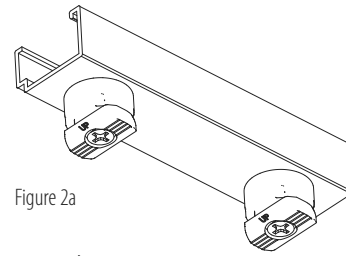

Figure 2a
- If Quick Lock connectors are pre-installed (Figure 2a) check tightness for a snug fit.